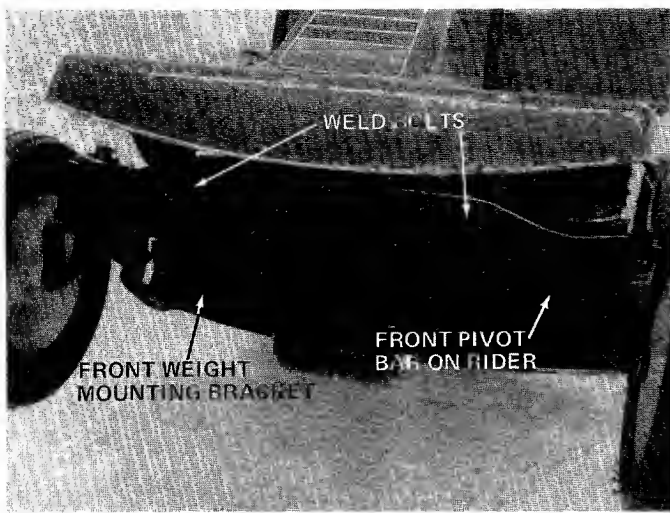

FIGURE 16
17. Place the front weight mounting bracket in position on the front pivot bar (located on front of rider). Secure the weld bolts to pivot bar with two hex nuts (O) and lock washers (P). See figure 16.